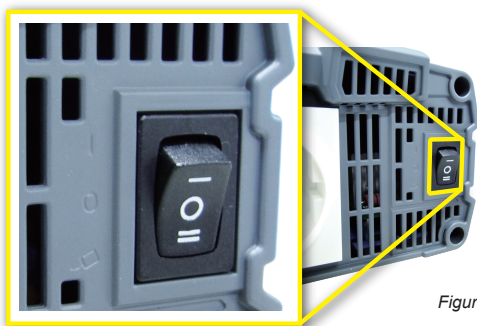

Figure 4. SP series remote position
- ⑦ Phone Jack Connector :
1. Before connection, please make sure to switch the inverter to REMOTE mode. (For SP/SC series) (Fig.4)